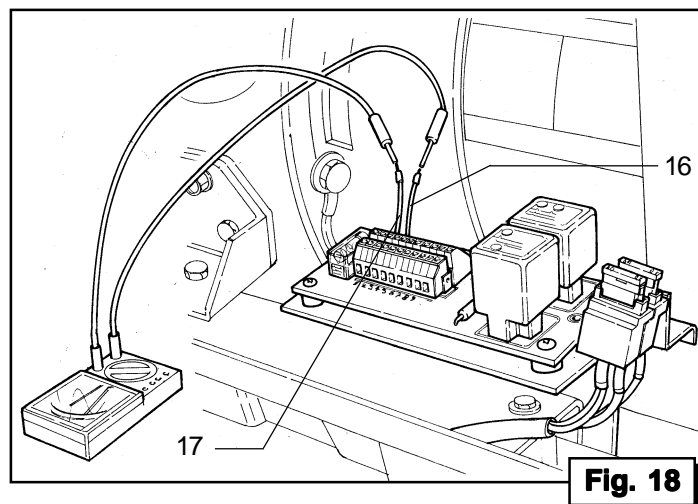

Fig. 18
- Scollegare dalla morsettiera i due cavi (NERI) provenienti dallo statore ai morsetti N. 16 e N. 17 (Fig. 18)
- Disconnect from the terminal board, the two wires (color: BLACK) connecting terminals No. 16 and No. 17 (Fig. 18) to the stator.